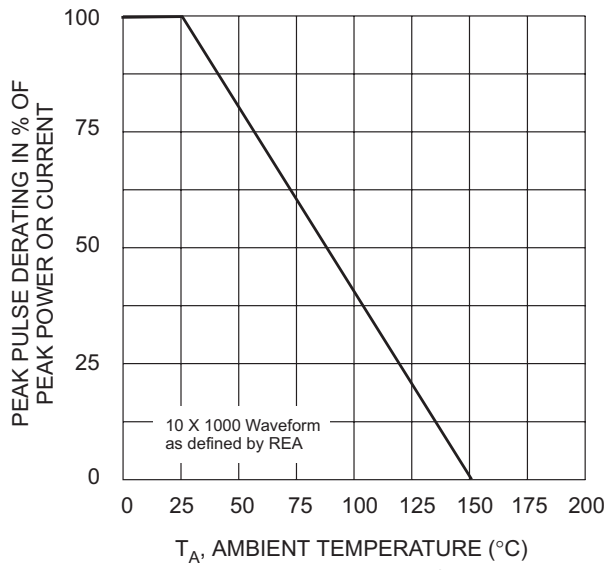
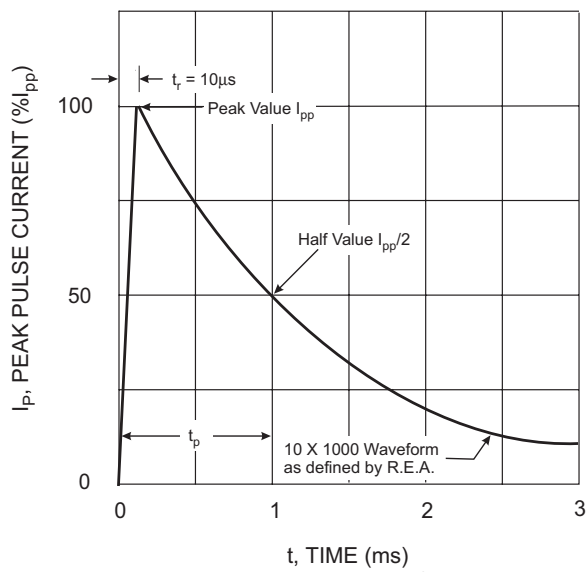

Fig. 1 Pulse Derating Curve
Fig. 4 Pulse Waveform
- Note: 1. Non-repetitive current pulse per Figure 4 and derated above  $T_A = 25^\circ\text{C}$  per Figure 1.